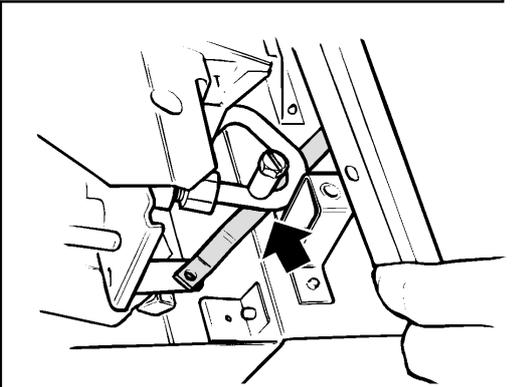

Fig. 21 Control linkage
9.3 Lift the bottom of the surround slightly clear of the convection box to get access to the bottom of the control linkage. Carefully slide the control button downwards while feeding the bottom of the control linkage through the gap between the surround fixing bracket and the burner supply pipe (see figure 21).